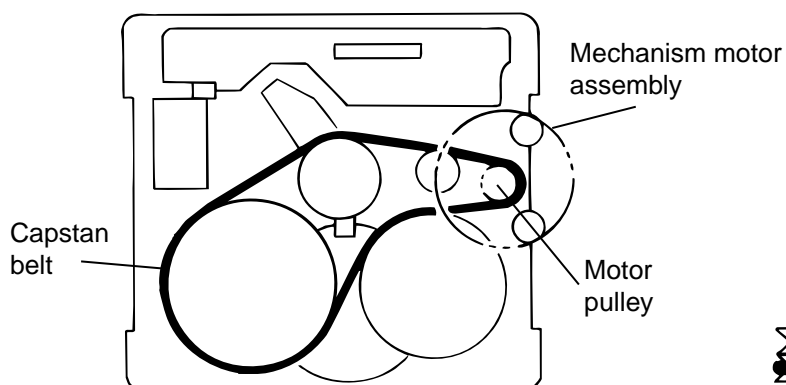

Fig. 5
**Caution 1:** Be sure to handle the capstan belt so carefully that this belt will not be stained by grease and other foreign matter. Moreover, this belt should be hung while referring to the capstan belt hanging method in Fig. 5, 6.